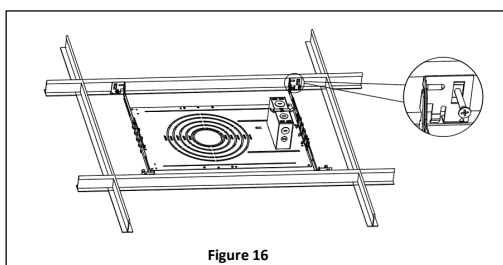

Figure 16
1. Center the pan on the ceiling tile and secure the assembly to the T-Grid placing the hanger bar ends onto the T-Grid and securing them with screws (NOT INCLUDED). **See Figure 16.**